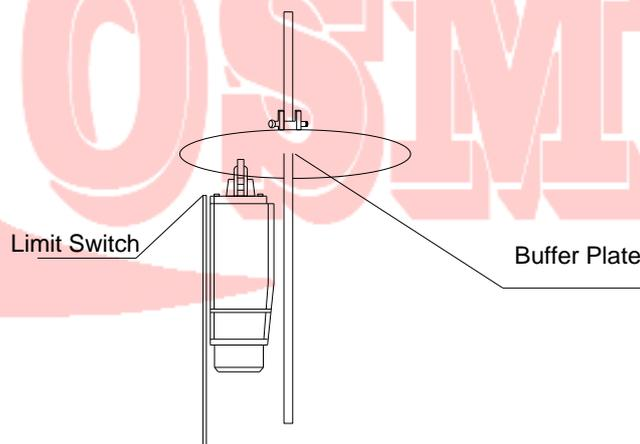

Figure 17 Installation of Buffer Plate
**5.4.5** Installation of buffer plate: Anchor buffer plate as following pictures. (See Figure 17)